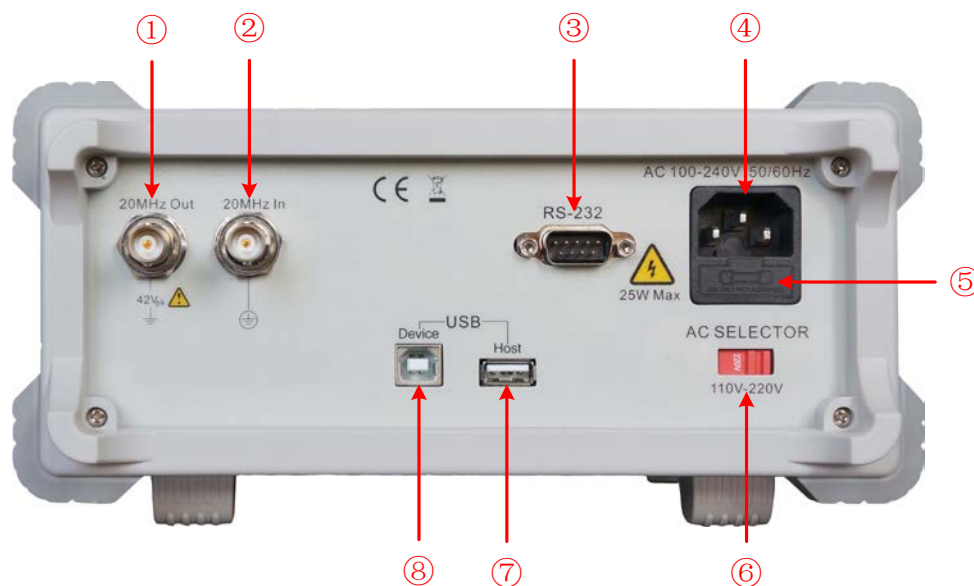

Figure 4-2 Rear panel overview
Adopt 110V/220V AC power source. Users should regulate the voltage scale of the **Power Switch** according to the standards in their own country (see *Figure 4-2*) at the rear panel and use an appropriate fuse.
- (1) Turn off the power button at the front panel and remove the power cord.
- (2) Check if the fuse installed before leaving factory (250 V, F2AL) can match with the selected voltage scale; if not, pry the cover open using a straight screwdriver (see ⑤ in *Figure 4-2*), change the fuse.
- (3) Regulate the **Power Switch** to the desired voltage scale.